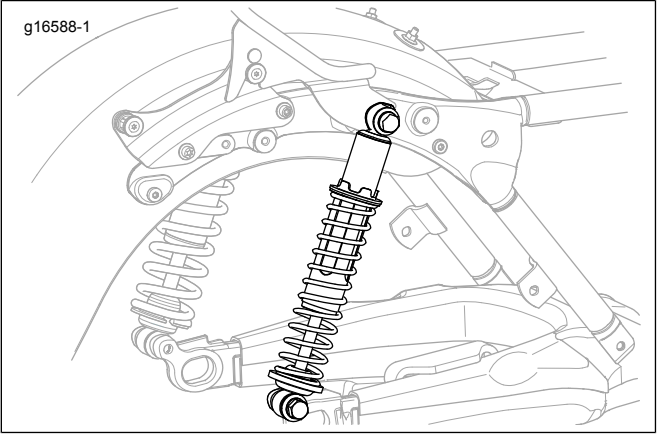

Figure 3. Shock Absorber Orientation with P&A Detachables
*** If interference is encountered at the shock absorber mounts:** Remove the right side shock absorber. See the service manual. Reinstall the shock absorber in the rod down position. See Figure 3. This will allow the necessary clearance for luggage rack installation. If fitment issues continue, contact a Harley-Davidson dealer for assistance.